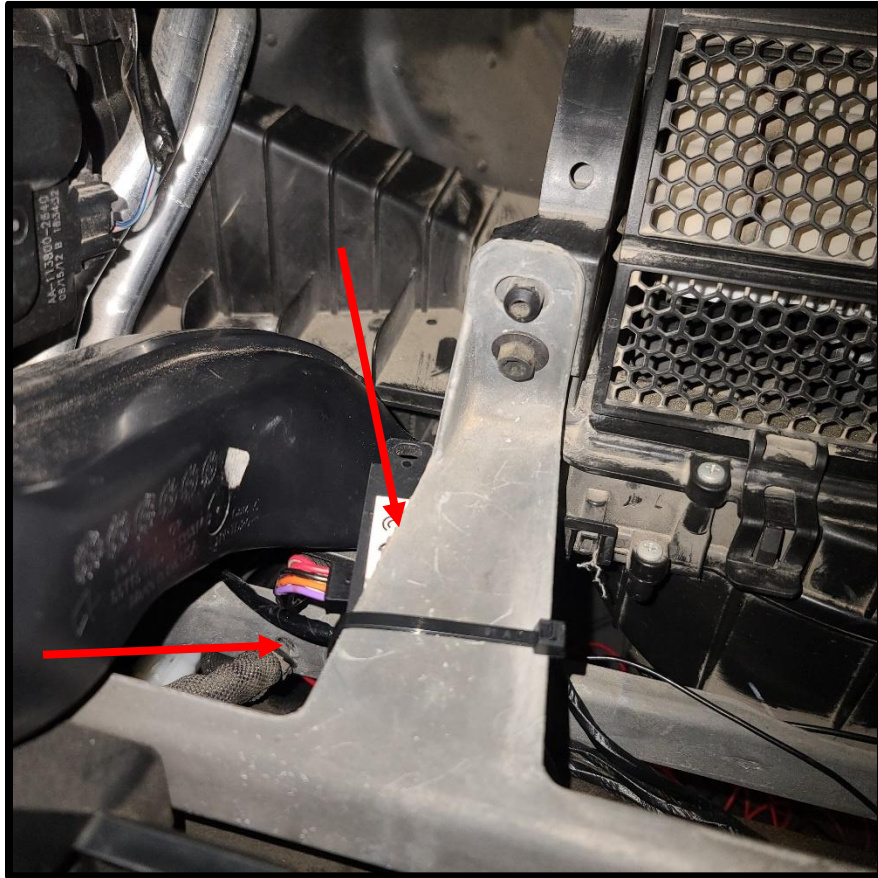
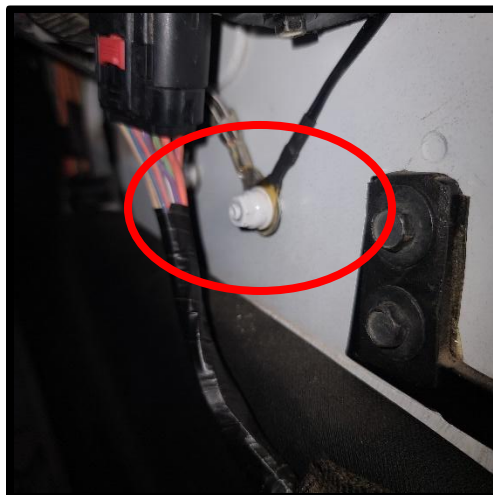

Figure 7
Figure 8
- 3-A) Obtain the ARB pressure control module / wiring harness, plug the harness into the module, and attach the module with at least one (1) zip tie to the bracket under the glove box as shown in **Figure 7** (glove box is removed) with the harness plug to the left. Run the ground for the module (**black** wire with a brass ring connector) over to the ground stud in the footwell. Attach to the stud circled in **Figure 8**.